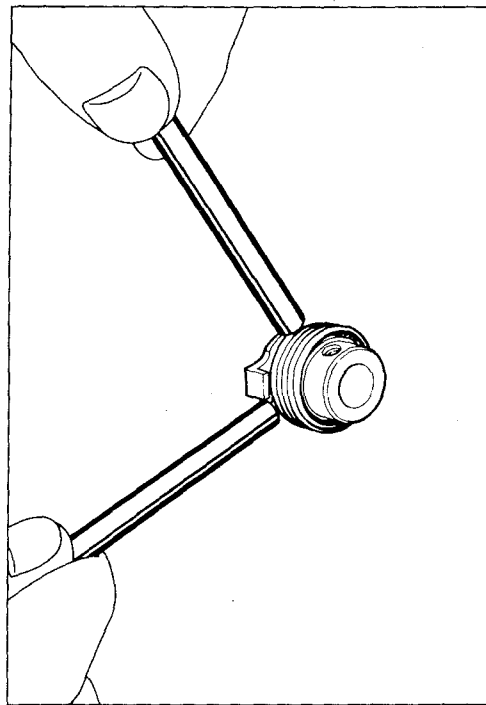

FIGURE 2-30
- (19) The torsion spring can be removed from the plate assembly as follows:
- (b) Wind up (expand) the spring and slip it from the plate assembly. Refer to figure 2-30.